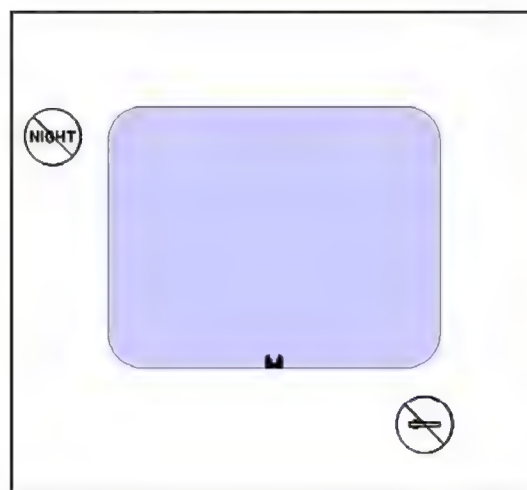

Figure 2-9. Status indicators—amber.
b. **Amber Status Indicators.** The two status indicators are amber (Figure 2-9). Amber is used when a marginal condition exists. It also alerts the gunner to situations where caution, a recheck, or an unexpected delay is necessary.